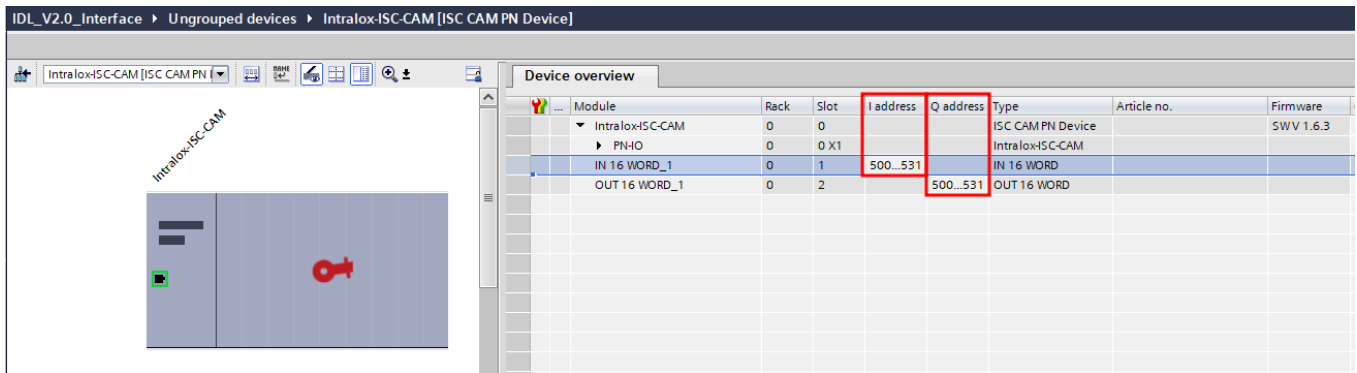

Figure 18: Set I and Q Address of ISC CAM Device
48. Double click or highlight the entire "I address" field, type 500 and press enter. The value in the field for ISC CAM shall change to 500...531, Figure 18.